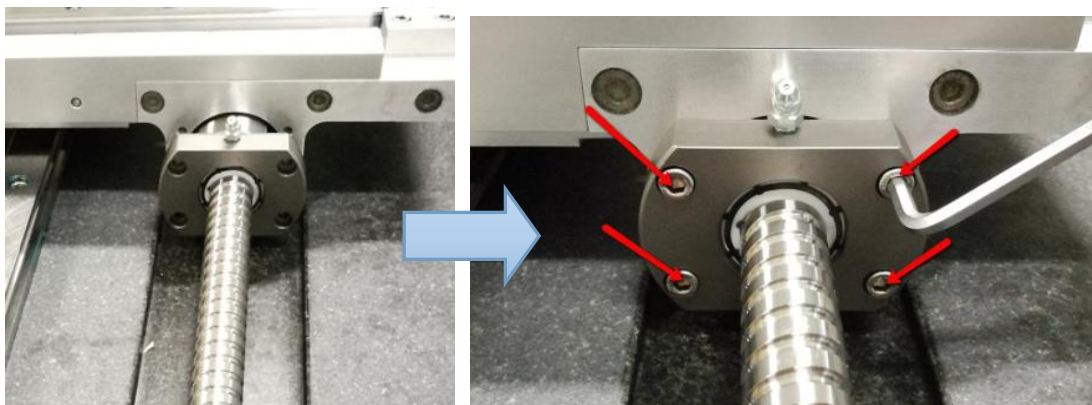

Figure 30 Y axis middle ball nut
32. Slightly move Y axis until Y axis middle ball nut could assemble at Y axis Base plate. Hand tight 4 x Screws as below Figure 30.